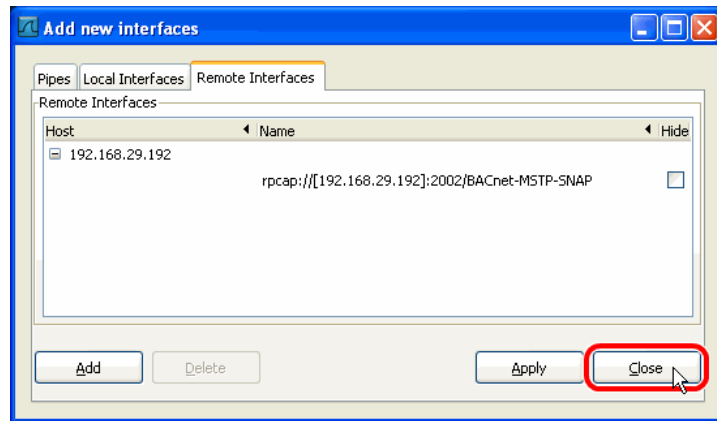

Figure 34: Added new interface to Wireshark.
7. If the connection to the device was established successfully, the **Remote Interfaces** list will be updated with information about all capture ports available on the device as shown in Figure 34.